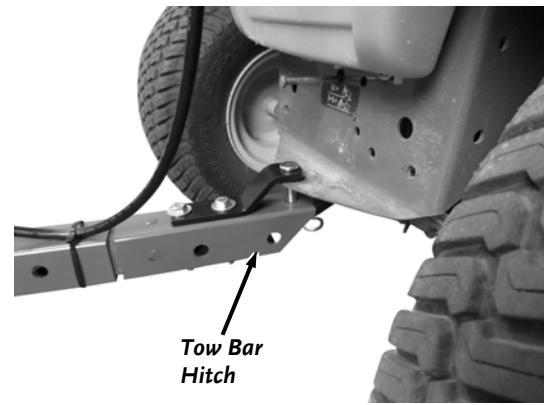

Figure 33
2. Lift the Tow Bar and position the Tow Bar Hitch opening onto the Lawn Tractor Hitch Plate (**Figure 33**).